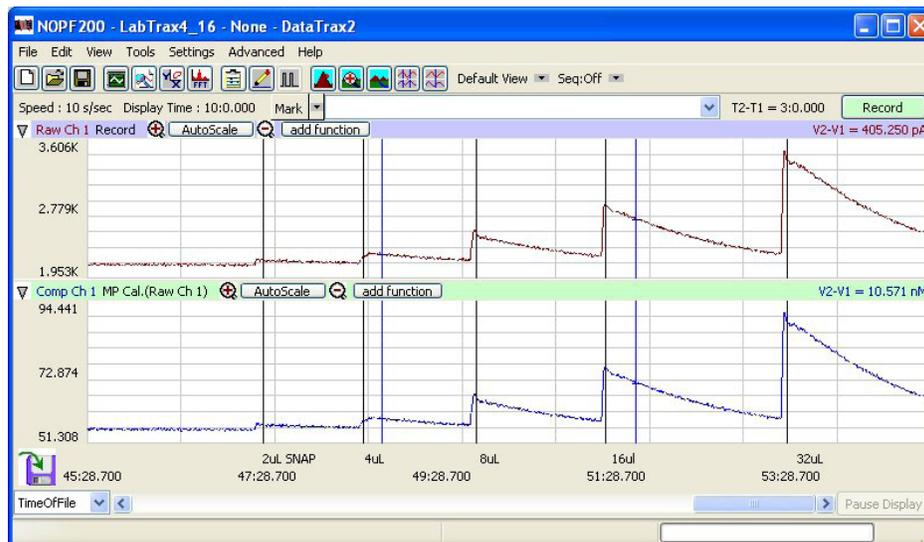

Fig. 47—Raw Data in channel 1, Calibrated data in comparison channel
- The final calibration results appear at the bottom of the recording on the LabScribe main page as a comparison channel (Fig. 47).